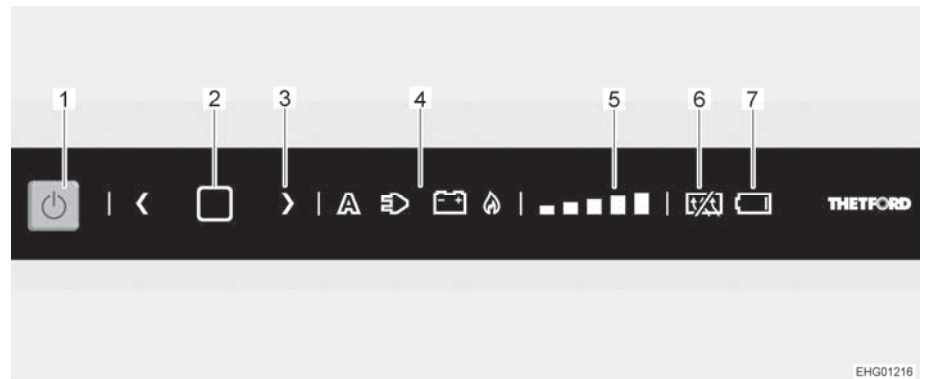

Fig. 137 LED operating panel
- Press and hold the On/Off button (Fig. 137,1) for 1 second. Button lights up blue. The last setting selected lights up.
- Press and hold the confirmation button (Fig. 137,2) for 2 seconds until the energy source symbol (Fig. 137,4) starts flashing.
- Press an arrow key (Fig. 137,3) to select the desired energy source.
- Press confirmation button (Fig. 137,2) to confirm the selection.
- Press confirmation button (Fig. 137,2) again. The cooling level indicator (Fig. 137,5) starts flashing.
- Press an arrow key (Fig. 137,3) to select the desired cooling level.
- Press and hold the On/Off button (Fig. 137,1) for about 2 seconds. All lights go out. Refrigerator is switched off.